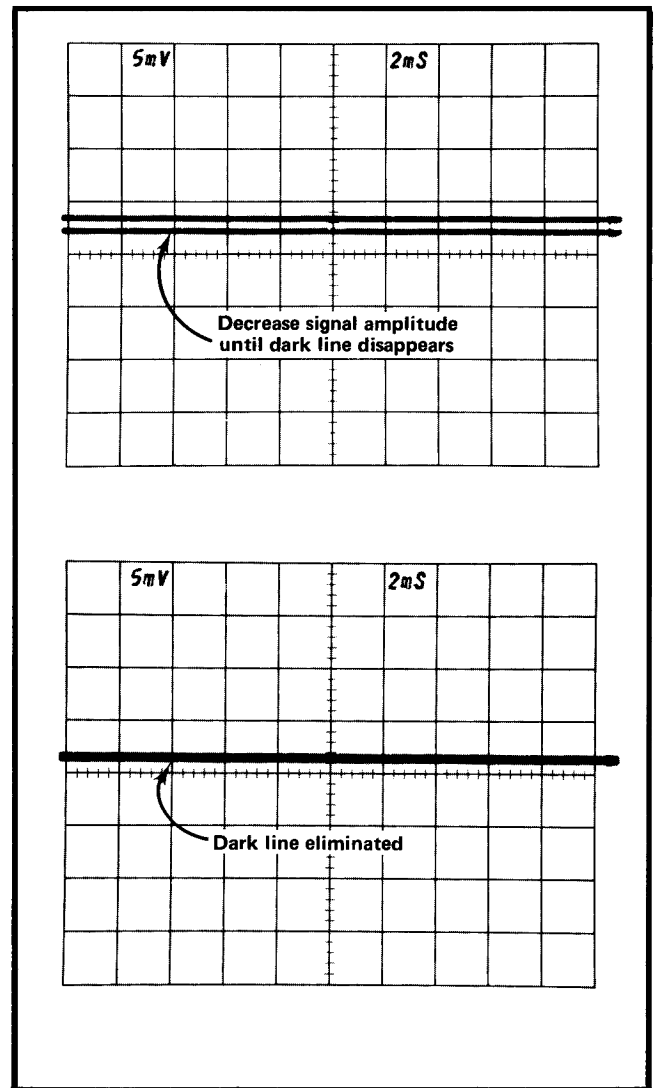

Fig. 5-17. Noise check waveforms, step 14.
e. At the Type 106 Square Wave Generator, switch the Repetition Rate Range to 100 kHz. Set the Hi Amplitude/Fast Rise switch to Fast Rise and adjust the + Transition Amplitude to obtain two horizontal traces. See Fig. 5-17. Then adjust the + Transition Amplitude until the two traces merge and the dark line separating them disappears. Proper adjustment is obtained when doubt exists as to whether or not the line has been eliminated.